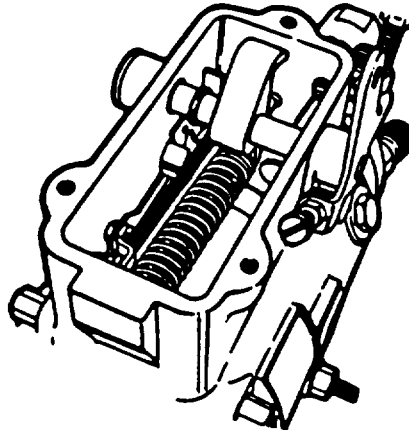

FIGURE 3-86. Installing Shutoff Cam
- cg. Compress both sides of throttle shaft (18) and shutoff shaft (30) and install a new shutoff cam (17) with straight inner edge engaging slot, refer to FIGURE 3-86.